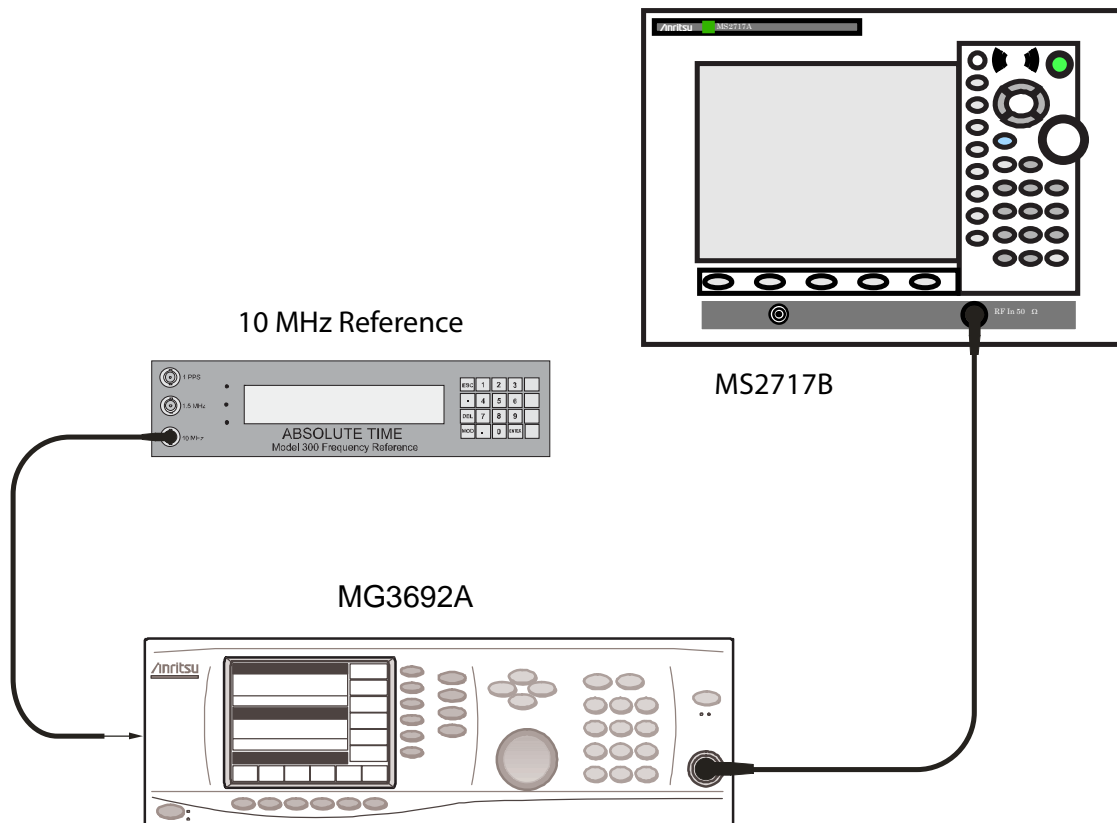

Figure 4-1. Internal Reference Frequency Adjustment Setup
1. Connect the external 10 MHz Reference to the Anritsu MG3692x Synthesized Signal Generator as shown in Figure 4-1.